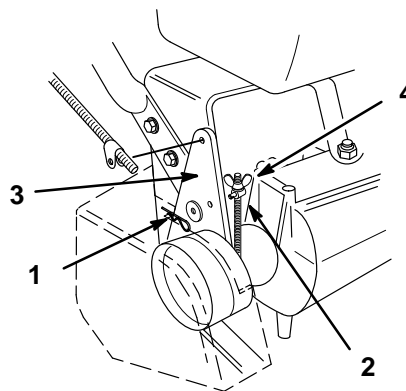

Figure 27
3. Remove the belt cover (Fig. 27) (3) bolts.
4. To adjust the brake remove the cotter pin and washer from the brake lever (Fig. 27).
5. Rotate the trunnion so it smoothly slides into brake lever (Fig. 27). Tighten wing nut.
6. Secure trunnion to brake lever with washer and cotter pin (Fig. 27). Replace the belt cover.